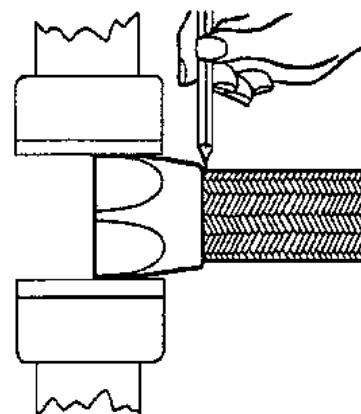

Figure 3. Marking Hose
h. Mark hose position around hose at rear of socket with a grease pencil, painted line, or tape (Figure 3).